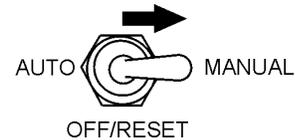

Figure 36. Auto-Off/Reset Manual;Switch (Manual Position)
1. Place the **Auto-Off/Reset Manual Switch** in the **MANUAL** position to start the engine (Figure 36).